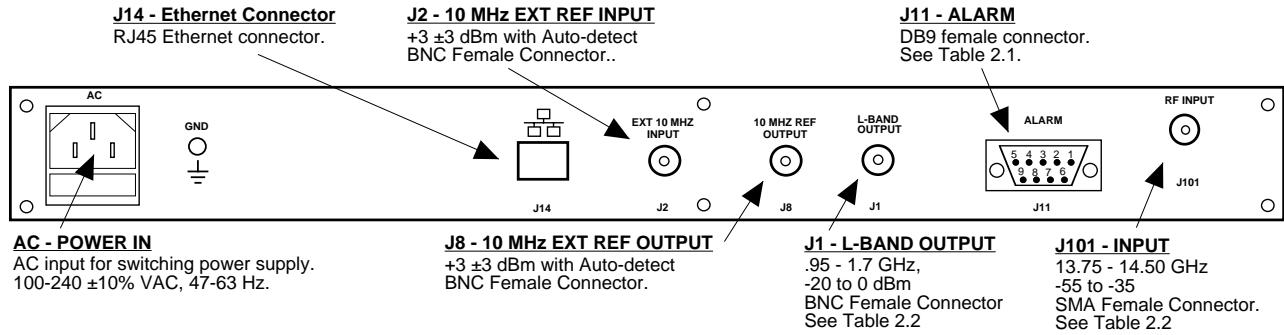

FIGURE 2.1 3116-137 Rear Panel I/O's
Figure 2.1 shows the input and output connectors on the rear panel.
1. Connect a -55 dBm to -35 dBm signal to RF IN, J101 (Figure 2.1).